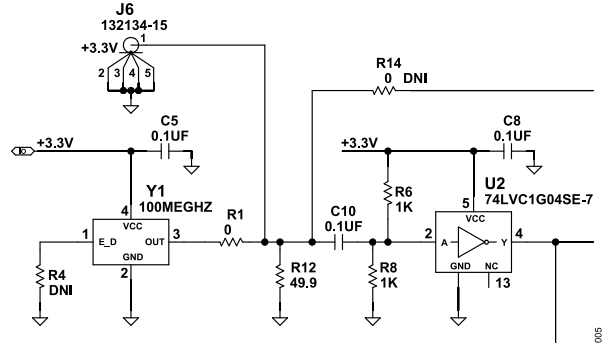

Figure 5. EVAL-AD4630-20FMCZ Evaluation Board Clock Circuit
The ZedBoard uses a 100MHz reference clock to generate its internal clocks as well as the sample clock for the AD4630-20. To simplify the system operation, an on-board 100MHz, low-jitter crystal oscillator (XO) on the EVAL-AD4630-20FMCZ evaluation board provides this clock by default, as shown in Figure 5. To use an external clock source, remove R1 and connect it to J6, the CLK IN SMA. The external clock frequency must be < 100MHz. Use a low-jitter clock source to achieve optimal system performance. Set the external clock level to 10dBm to 12dBm.